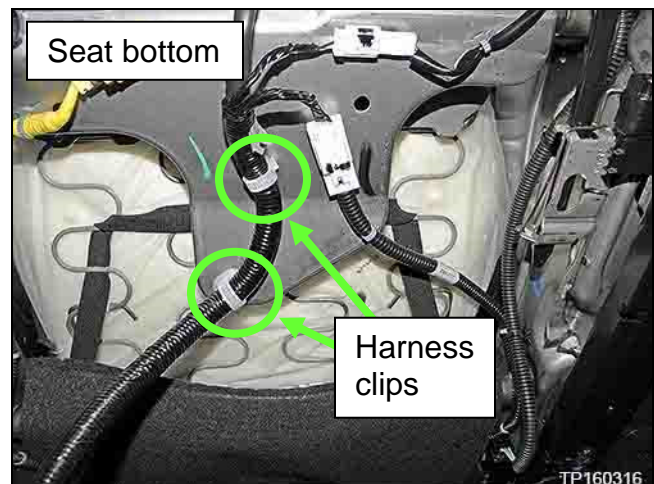

Figure 3
4. Unclip the harness from the seat bottom at the two locations shown in Figure 3.